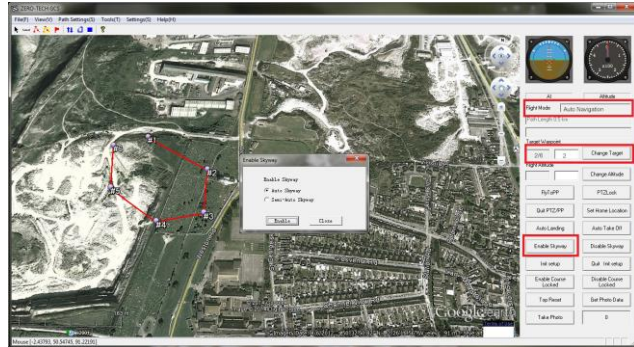

Figure 59
2) Click “Enable Skyway” on the right hand panel and a confirmation will pop up, as shown in Figure 59, click “Enable” and the aircraft will fly to the first waypoint and hover.